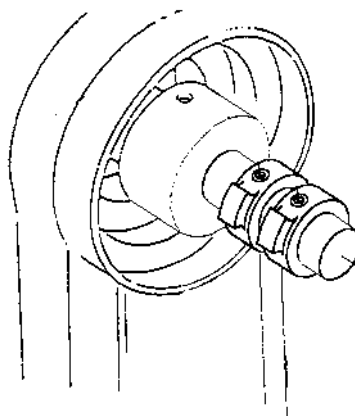

Figure 8.2
- Holding the hand wheel securely, move **needle up sensing ring** (figure 8.2) until edge 7 is in the middle of the sensor.